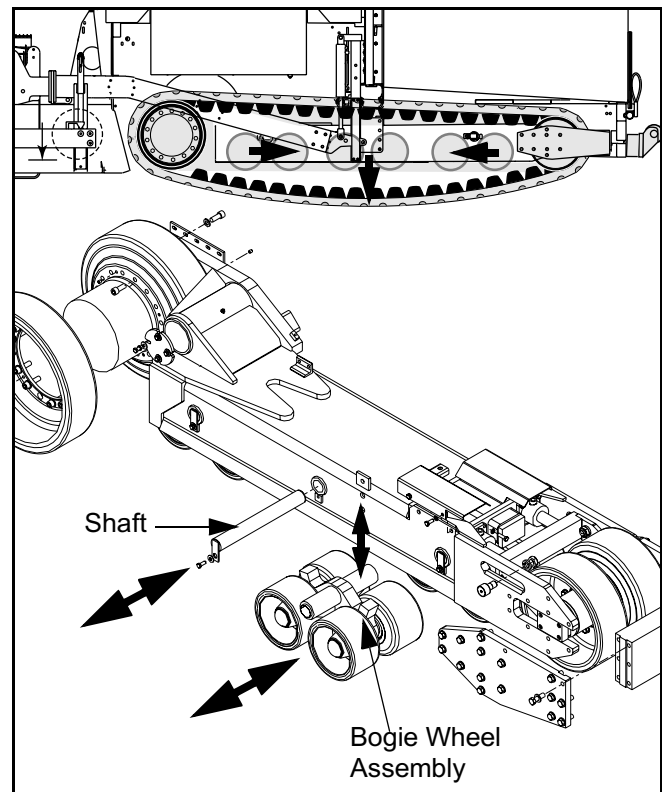

Figure 6 - 23 Bogie Wheel Assembly Removal
- 2) Remove shaft from track frame that holds center bogie wheel assembly to frame (Figure 6 - 23). This will allow the assembly to drop onto the track.